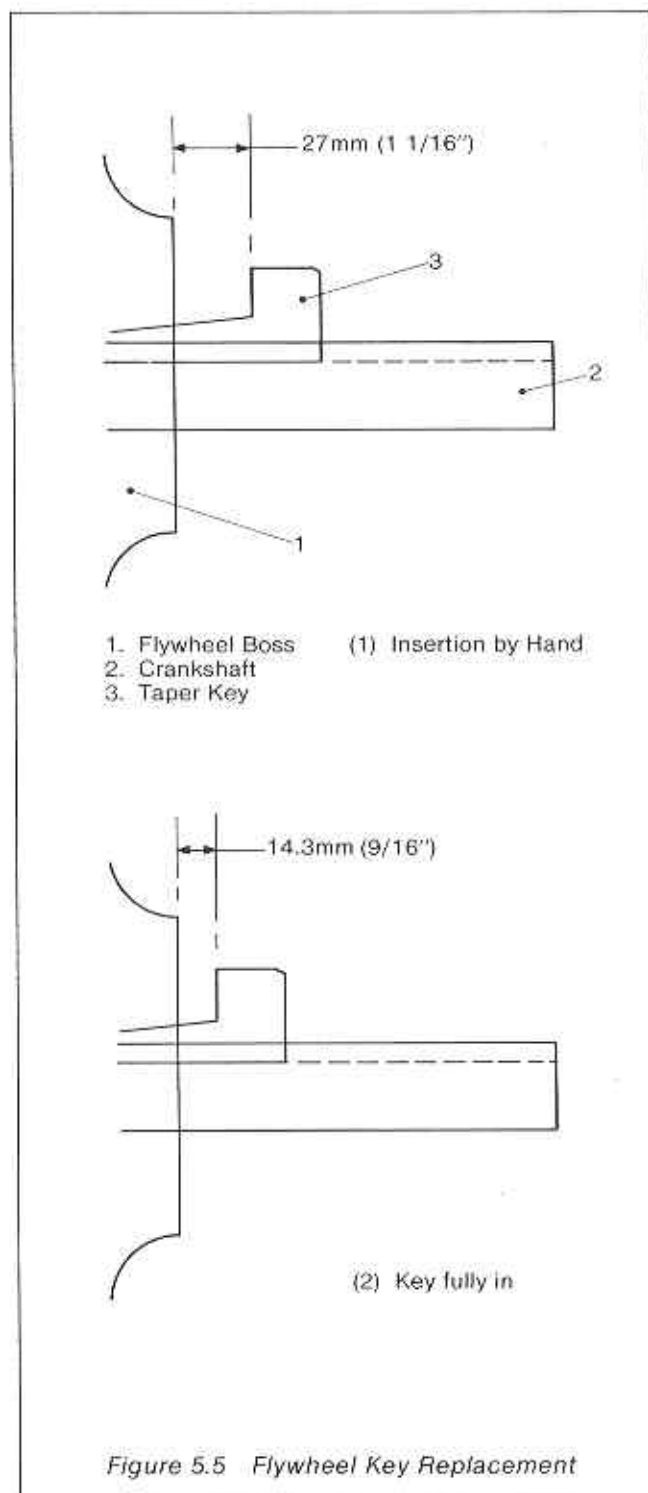

Figure 5.5 Flywheel Key Replacement
- (1) File a chamfer on all four corners of the key to prevent any possibility of the corners binding in the keyway corners.
- (2) Push the key by hand as far as possible into the keyway. Measure the distance between the flywheel boss and keyhead, as shown in Figure 5.5, this should be 27 mm (1.1/16 in.). If it is more, remove metal from the bottom of the key to obtain this measurement.